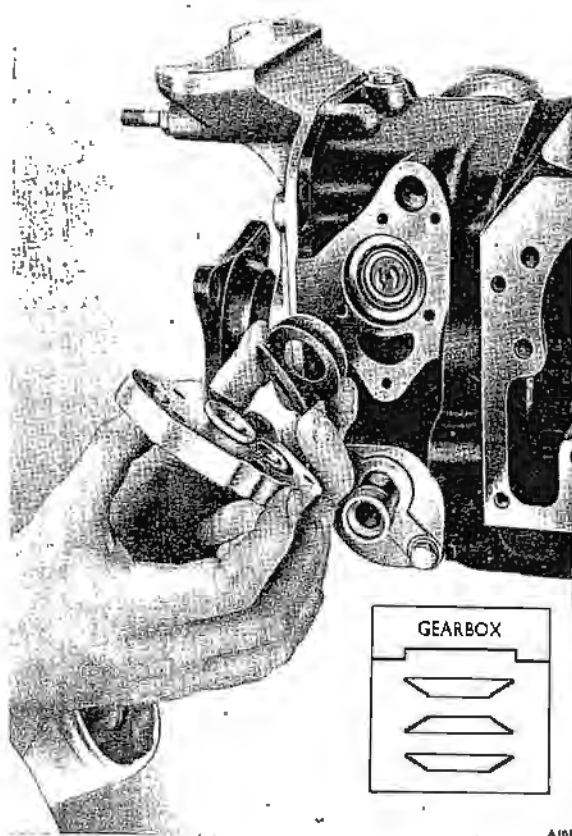

Fig. 90 Refitting intermediate plate
- 1 Temporarily refit the intermediate plate with the distance piece and dished spring washers as shown in Figure 90. Fully tighten both the securing setscrews.